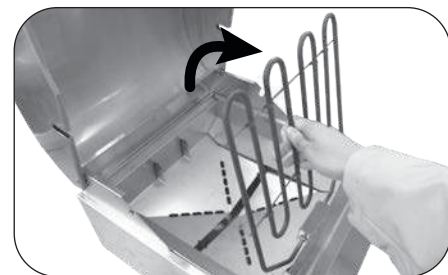

Fig. 22-2 Raise element upward
3. Grasp the cool cooking element and apply pressure towards the right of the grill. Once it clears the tab, completely raise it up (Fig. 22-2).